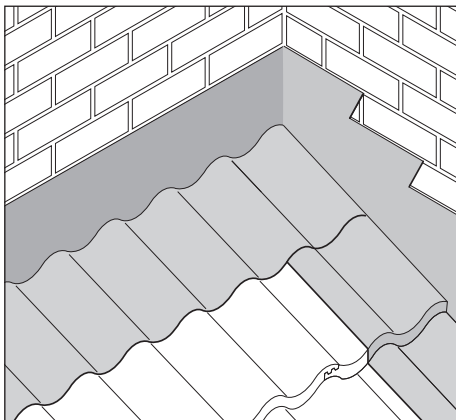

Fig. 22 – Top edge abutment
- 8 Dress lead to profile of tiles (Fig. 22).